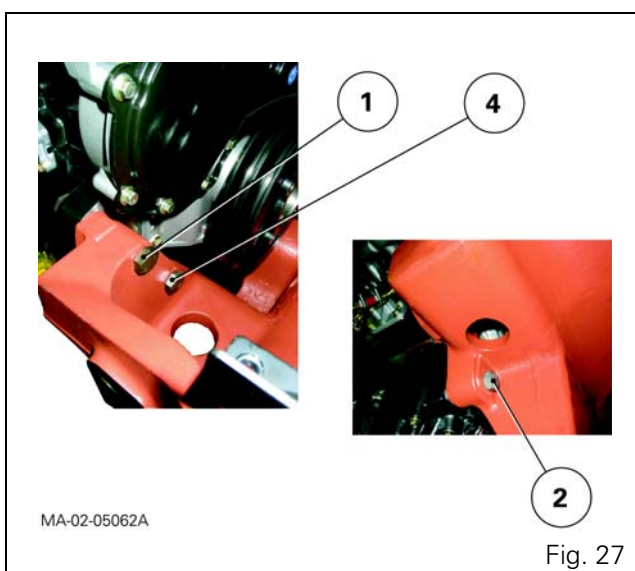
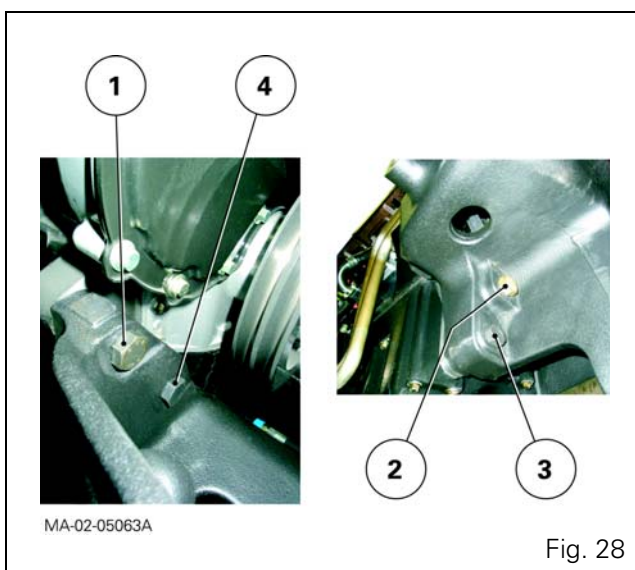

Fig. 27
Fig. 28
- Front frame and Perkins engine with mechanical injection (Fig. 27)**
53. Fit screws (2), (4) and nuts (1), simultaneously taking out the guide studs.
54. Tighten opposing screws and nuts to a torque of 240 - 320 Nm in the following order (2) (4) (1).
- Front frame and Perkins EEM engine (Fig. 28)**